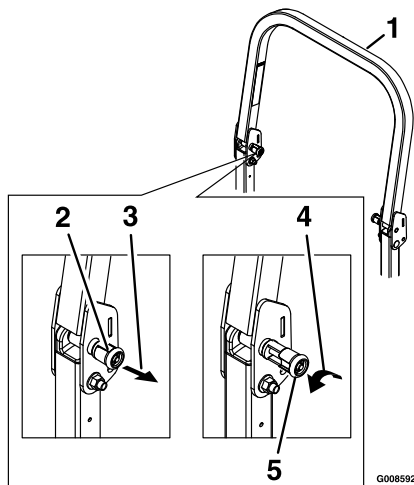

Figure 11
1. The knob must be completely latched with the tabs interlocking as shown in Figure 11 to lock the roll bar in the raised, operate position.